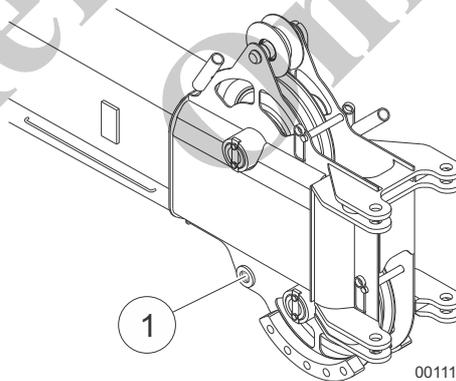

Fig. 195 Attaching a rope for pulling the fly boom around
- 14 Attach a rope to the eye (1) in Fig. 195 on the fly boom.